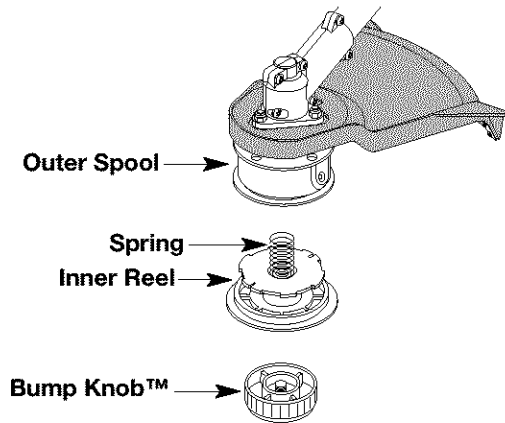

Fig. 11
1. Hold the outer spool with one hand and unscrew the Bump Knob™ counterclockwise (Fig. 11). Inspect the bolt inside the Bump Knob™ to make sure it moves freely. Replace the Bump Knob™ if damaged.
2. Remove the inner reel from the outer spool (Fig. 11).
3. Remove spring from the inner reel (Fig. 11).
2. Remove the old inner reel from the outer spool (Fig. 11)
3. Remove the spring from the old inner reel (Fig. 11).
4. Place the spring in the new inner reel (Fig. 11).